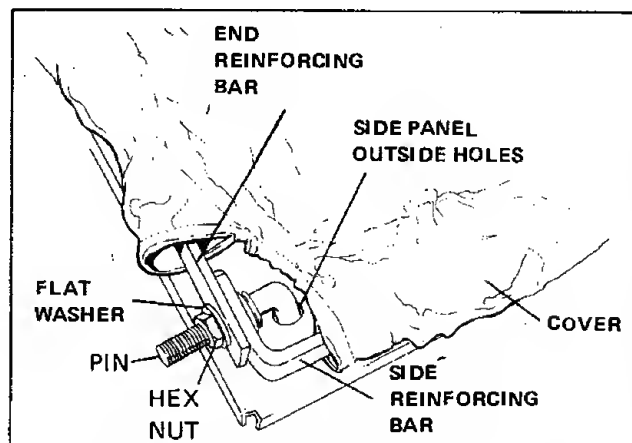

Figure 22. Assembling Cover Frame
6. See figure 22. Insert the threaded end of the cover pins through the reinforcing bars, place a 3/8 inch flat washer on the pin, and tighten on a 3/8 inch nut so that the pin is pointing downward to fit in the side panel holes. Repeat the procedure for the other three pins, so that the cover is installed with the cover inlet hole facing the front of the cart.